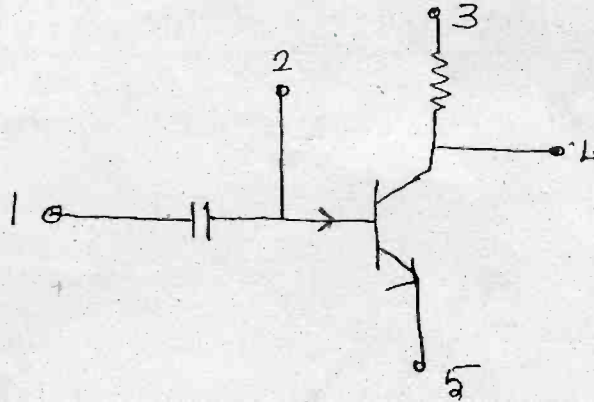

Figure 1
11. (a) (i) Explain the fabrication process involved in the following circuit diagram (Figure 1). (10)